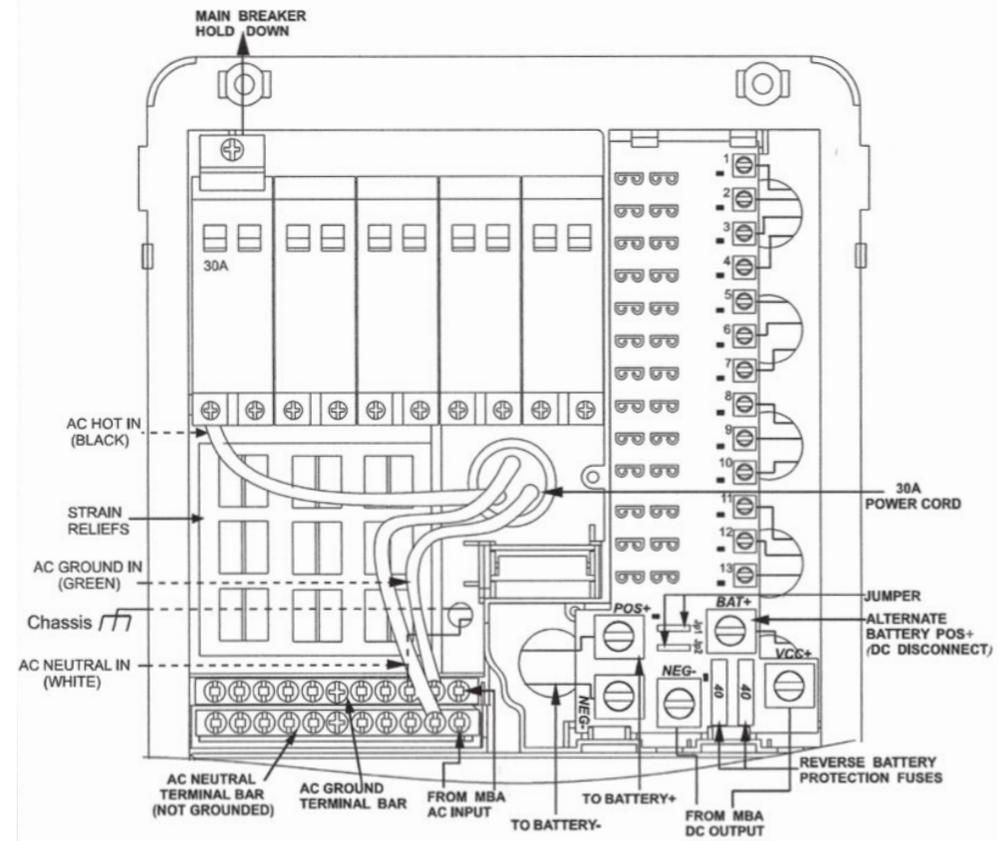

Figure 6
**** Make sure no AC power is coming into the RV from either the Shore Power cord or an on-board generator.** Determine the proper size breakers for the loads the WF-8500 Series will be powering. You can use either single or duplex breakers, or a combination of both. We recommend that all the breakers used be of the same brand. When using duplex style circuit breakers, a total of 10 breakers can be mounted in the WF-8500 Series, 1 Main breaker and 9 Branch breakers. Refer to the tables on pages 5 and 6 for a selection of approved breakers. The Main breaker should be 30 Amp and is to be installed in the left-most position. See the wiring diagram (Figure 6) on page 13. A hold down clip is provided to keep the breaker securely in place.